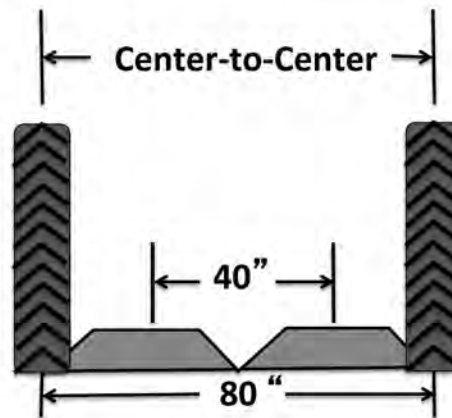

**Figure 1**
*Choosing the proper bed configuration/row spacing for your farm is one of the most important decisions you will make as a beginning farmer. This decision is often dictated by the wheel spacing on your tractor, depending on the tractor or tractors you use in your operation (see Figure 1, below).*